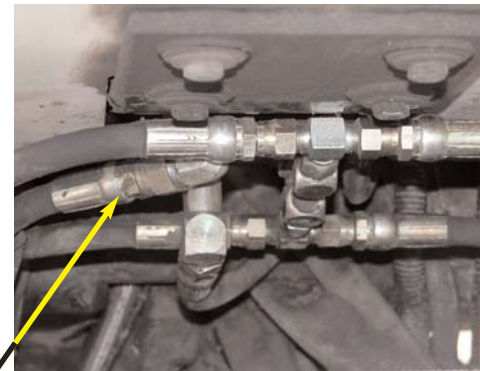

Figure 3c. Tank line at steering orbital.
- c. Tank flow from the Automated Steering Block will be returned to the tank line at the steering orbital. (Figure 3b.) Remove the top right line from the orbital and install the provided run tee (I). (Figure 3c. and 3d.)